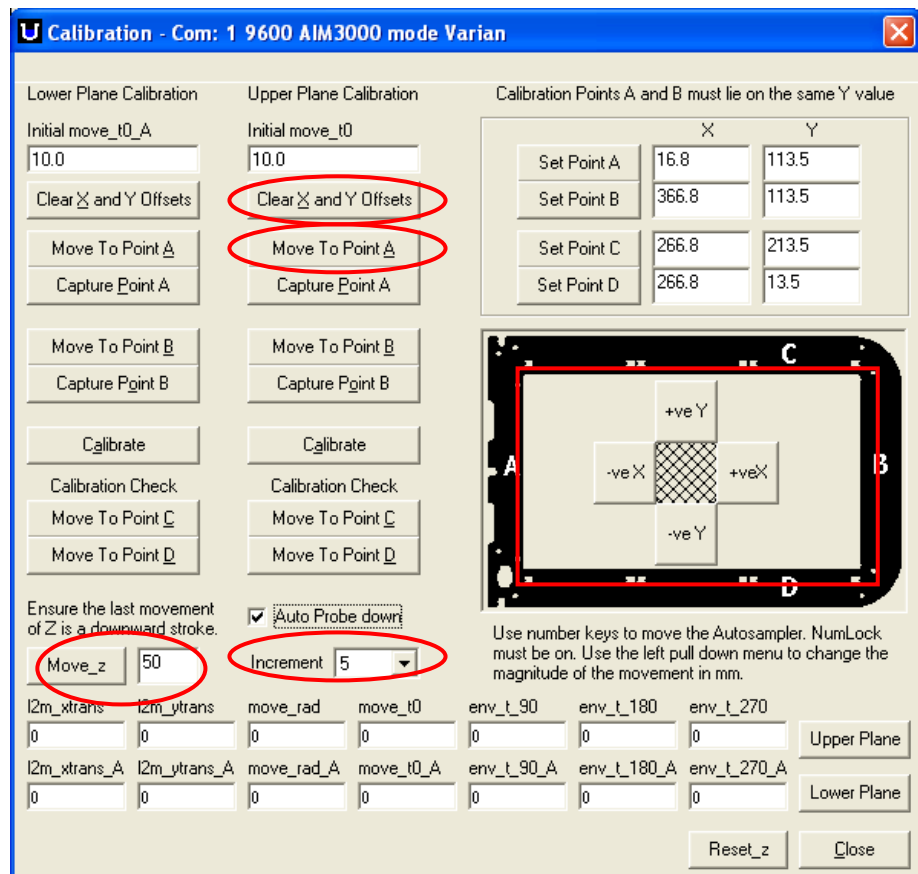

Figure 48. Clearing the Upper Level Calibration Coefficients
1. Clear the upper plane calibration X and Y offset (Clear X and Y Offset) Figure 48.
3. Select the Move To Point A button (Figure 48), and then using the X & Y movement buttons (Figure 48) align the probe so that it rests right above the point A dimple (Figure 51) in the tool. Do not forget to adjust the Move_z (Figure 48) depth adjustment to avoid running the probe into the alignment jig. Remember that fine adjustment of the probe can be made by changing the Increment pull down menu (Figure 48).